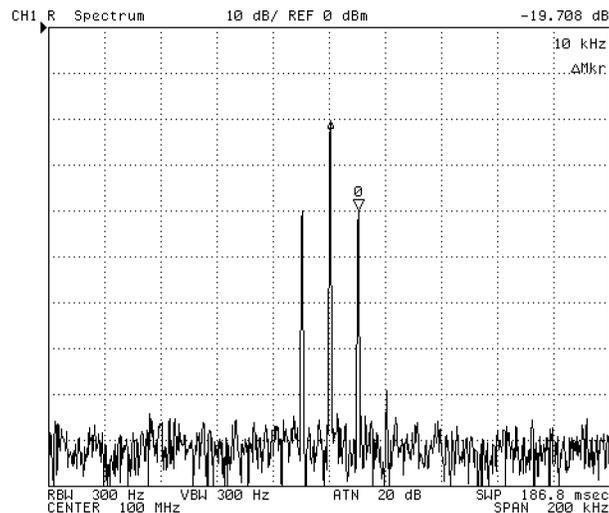

Figure 10-18. Modulating Frequency of AM Signal
- Press **Search** SEARCH: PEAK NEXT PEAK to search for a sideband. The offset value from the carrier is displayed as the marker sweep parameter value shown in Figure 10-18. This value is the modulation frequency.
The Δ marker shows that the sideband amplitude value relative to the carrier is -19.708 dB (see Figure 10-18). The modulation index (m) can be derived from the following equation:
where ΔMkr is the Δ marker value shown in Figure 10-18.